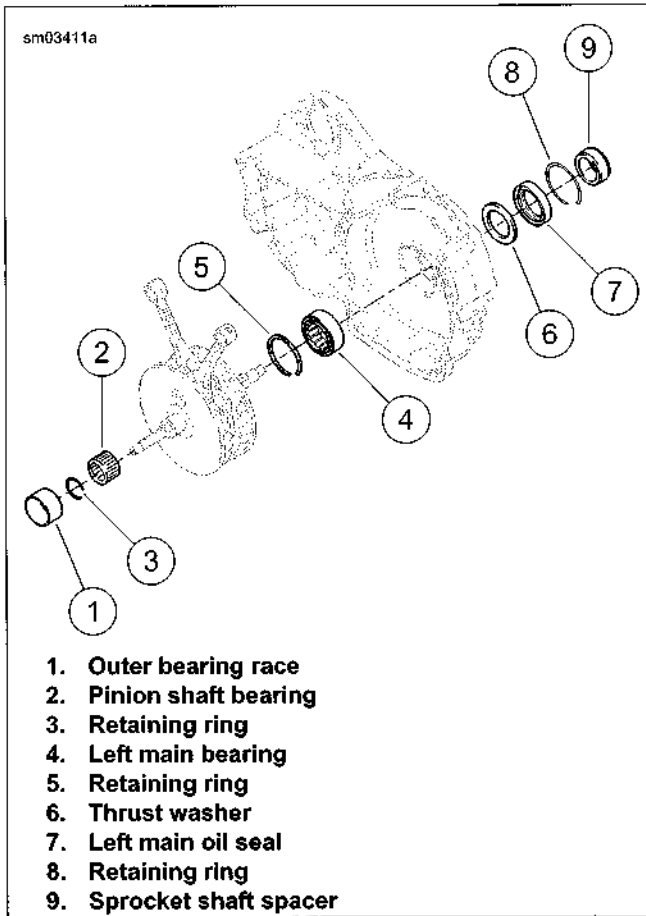

Figure 3-109. Pinion Shaft and Left Main Bearings
- See Figure 3-109. Lubricate pinion shaft and pinion shaft bearing (2) with SCREAMIN' EAGLE ASSEMBLY LUBE.